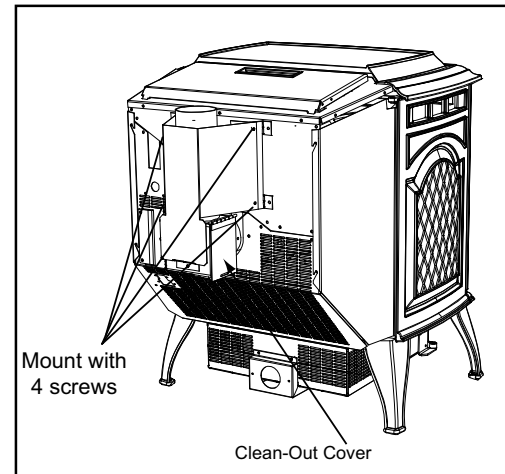

Figure 18.5
5. Drill 2 holes with #26 drill bit through the rear exhaust outlet using the 2 holes already in the short horizontal pipe in the top vent adapter as a guide. Install the 4 screws. **Figure 18.5.**